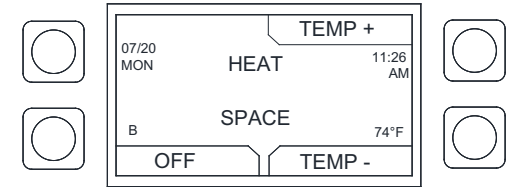

Figure 2 (Home Screen)
1. Press any button on the HMI to access the home screen (Figure 2).
Active faults can be viewed on the HMI home screen (Figure 2) or by navigating to **USER SETTINGS > ACTIVE FAULTS**. Refer to "HMI Fault Codes" in the operation, installation, and maintenance manual for full list of fault codes.